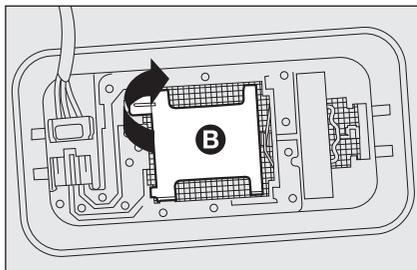

fig. 26
- open the cover **B**-fig. 26 as shown;